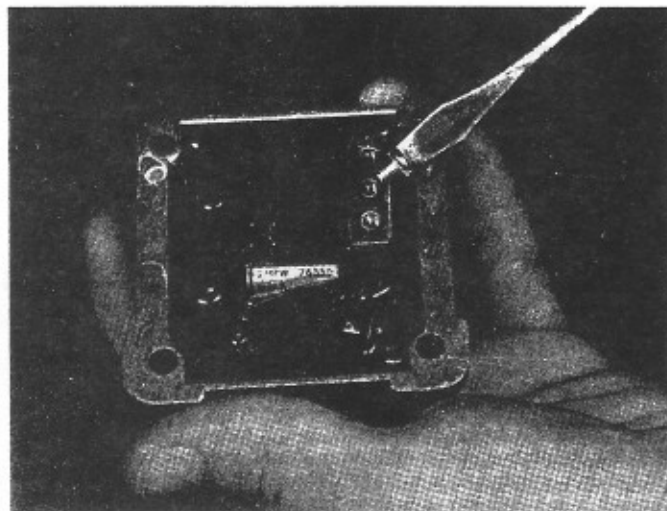

Figure 4
2.5 To set voltage to a desired voltage range (see chart above for specific values), remove voltage set screw and install it in hole marked "Hi" or "Lo", or the middle hole. Fig. 4.